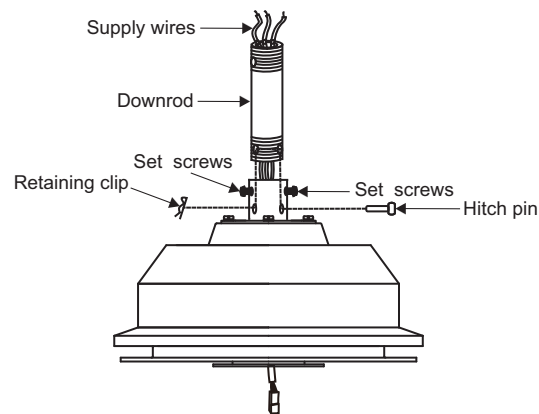

Fig. 8
Step 6. Loosen the two set screws and remove the hitch pin and retaining clip from the coupling on top of the motor assembly. (Fig. 8)
Next, replace the hitch pin and retaining clip. Tighten both set screw. (Fig. 8)